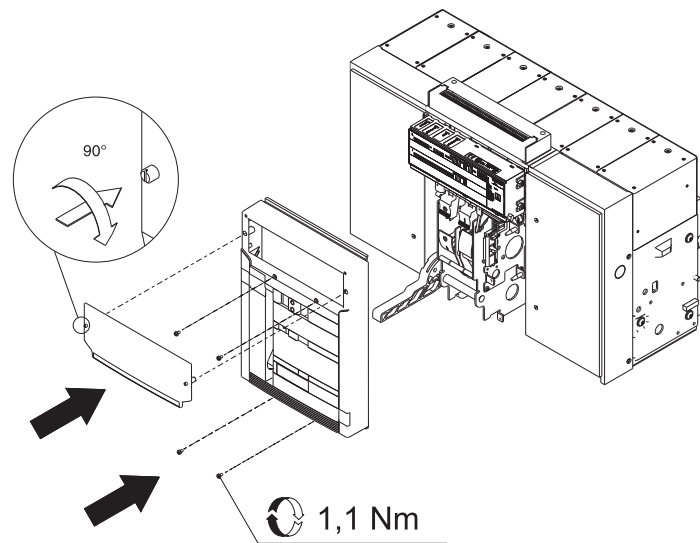

Fig. 46
- Refit the cap as indicated in figure 46.